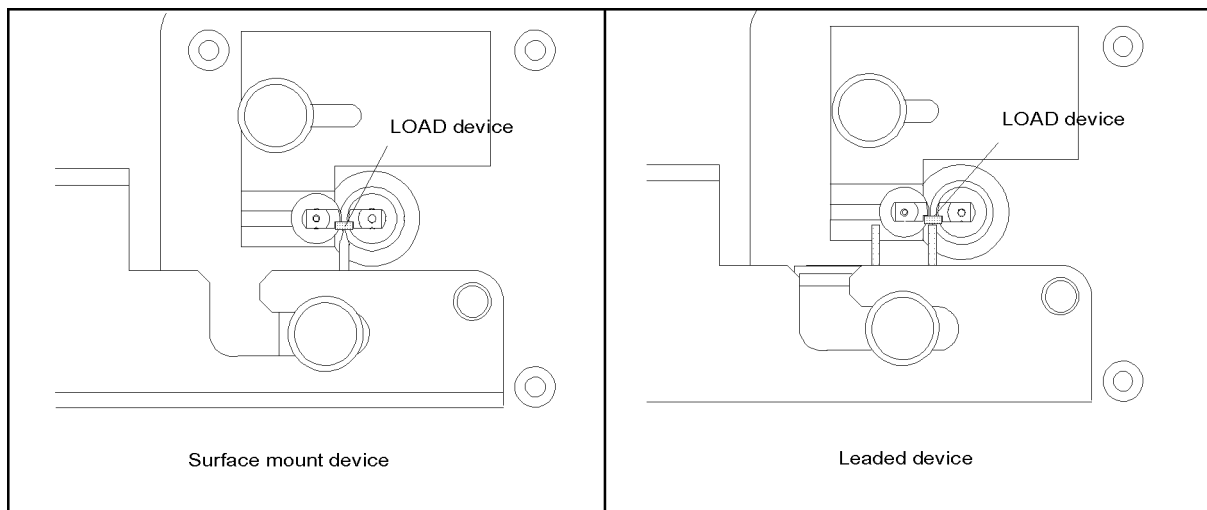

Figure D-6. Load compensation
4. Place the device on the electrodes and press it with the device holder (Figure D-6).